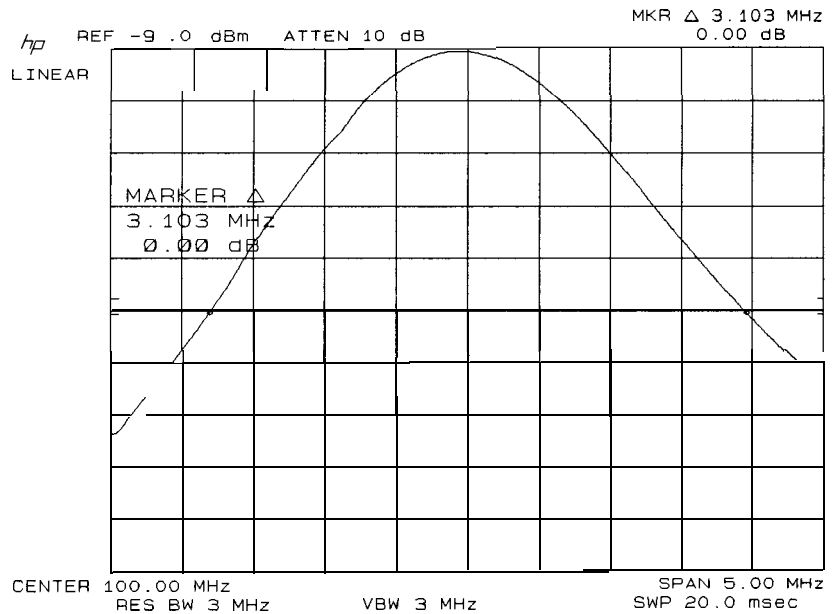

Figure 4-3. 6 dB Resolution Bandwidth Measurement
45. Press MARKER **(Δ)** and position movable marker 6 dB down from the signal peak on the negative going edge of the trace (the MARKER **(Δ)** amplitude readout should be 0.00 dB ±0.05dB). The 6 dB bandwidth is given by the MARKER **(Δ)** frequency readout. (See Figure 4-3.) Record in Table 4-2.